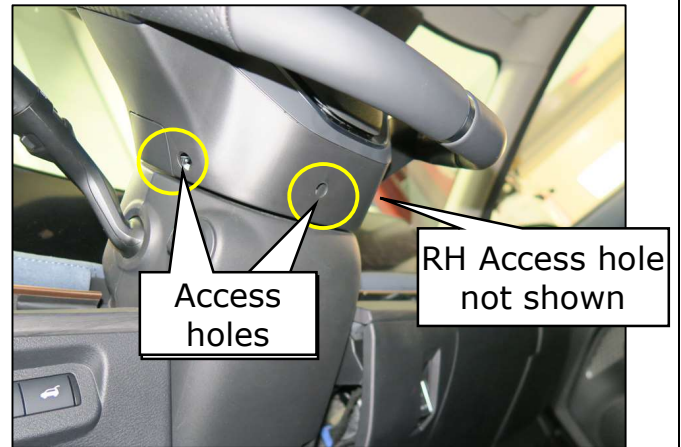

Figure 3
4. Locate the (3) driver airbag release access holes on the sides and the bottom of the steering wheel. (Figure 3)